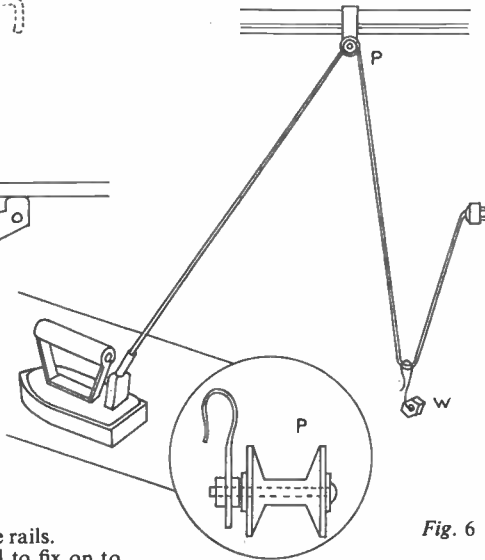

Fig. 6
It consists merely of a pulley (P in Fig. 6 and inset) and a weight (W) hooked on the lead between pulley and plug.